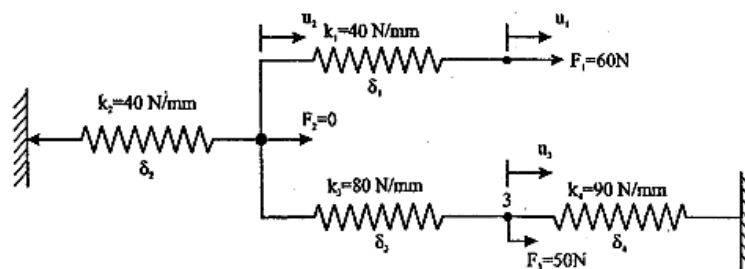

Fig.2
- b) For a spring element shown in fig.2, determine the nodal displacements using principle of minimum potential energy 06